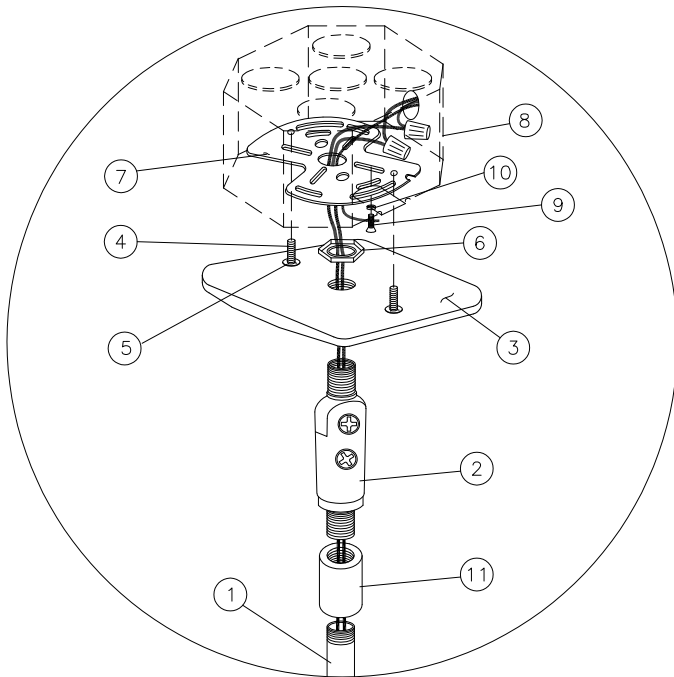

Figure 1
| ② Swivel (Fig 1) | ⑧ 4" Octagon J-Box (not supplied) |